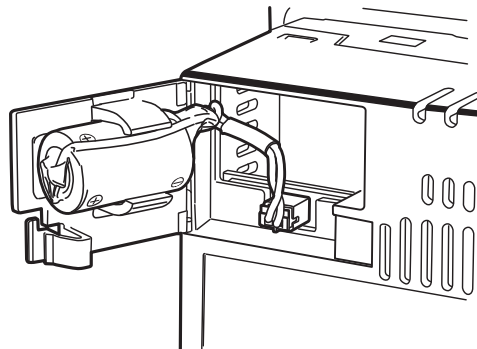

Figure 2
5. Connect the new battery connector, and insert the battery into the battery holder in the battery cover. Make sure that the lead wire of the battery is placed to contact the upper side of the holder as shown in the Figure 2.